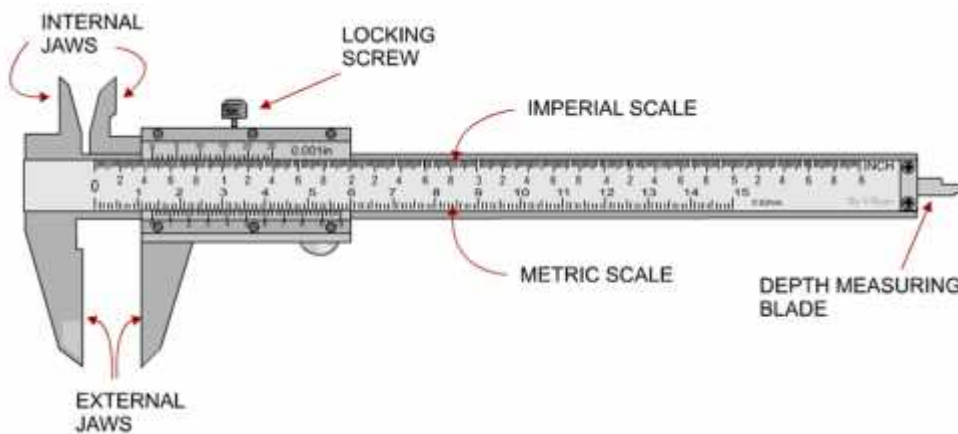

Figure 1. Structure of a vernier caliper.
- the length of an object (with external Jaws, Figure 1),
- the outer diameter of a round or cylindrical object (with external Jaws, Figure 1),
- the inner diameter of a pipe (with internal Jaws, Figure 1),
- the depth of a hole. (with depth measuring blade, Figure 1).